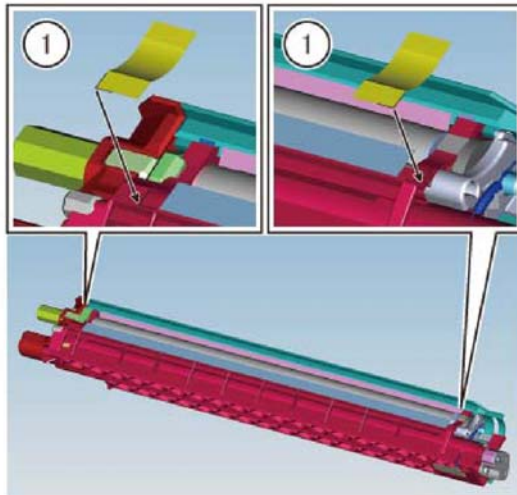

Figure 10 Seals
16. Paste on two seals (1) to the lower sub COH housing assembly mark, Figure 10.